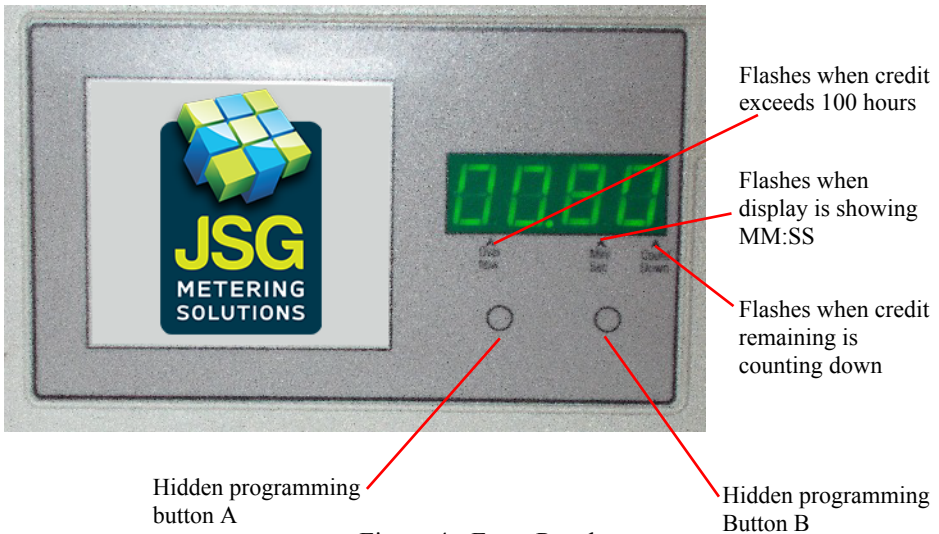

Figure 4 - Front Panel
- (1) The 4 digit 7 segment display, in conjunction with the hidden programming buttons, is used to program the JSGCT60, as well as showing time remaining and mode of operation (see Figure 4).
- (2) The coin entry accepts tokens or 10p, 20p, £1, €½, €1 coins.
- (3) The optional key over-ride switch turns the timer output on permanently.
- (4) Access for installation is via the cover lock.
- (5) Cash box holding 100 coins.
- (6) Hidden programming buttons (page 3).
To access service mode remove the coin box, press and release button B (Figure 4) to step to the desired setting number (St.01 to St.10). Simultaneously pressing and releasing both buttons A and B will step back to the previous setting. On reaching the required setting number press button A to enter desired values.
Insert coin/token. The display will briefly show 'Coin'. The display will then show the remaining credit. If the credit is greater than one hour it will be displayed in hours & minutes, e.g.; 2 hours will be displayed as '02:00'. If the credit is less than one hour it will be displayed in minutes & seconds, e.g.; 40 minutes will be displayed as '40:00' and an indicator will flash on the display to show this (Figure 4).